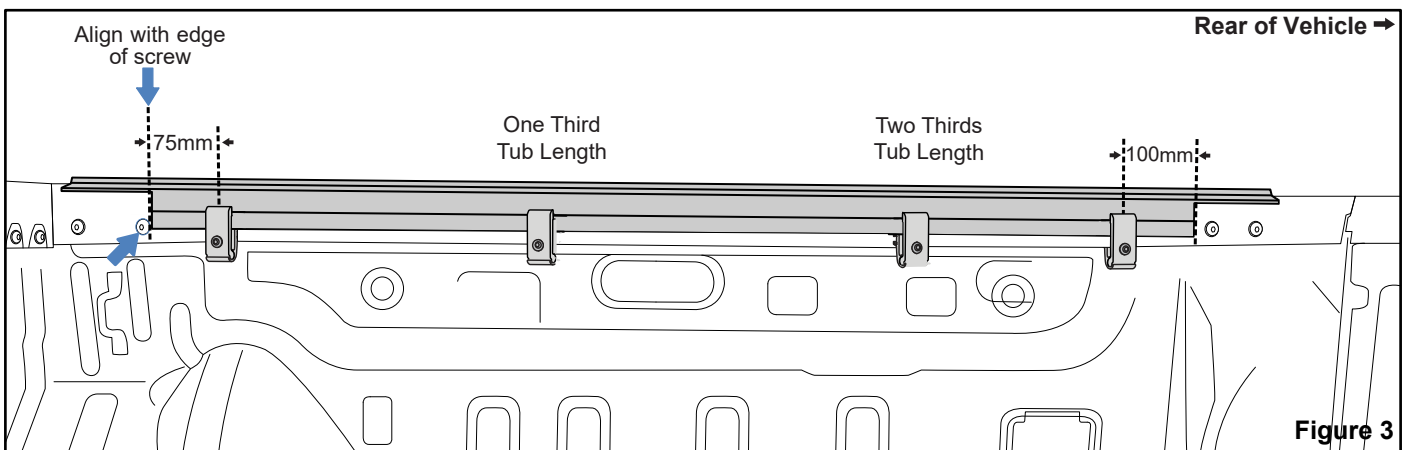

Figure 3
- Attach first Clamp at 75mm from front edge of Side Rail as shown above in Figure 3. Attach second Clamp 100mm from rear edge of Side Rail. Then attach the Bar Brackets 1/3 and 2/3 down the tub, as shown above.